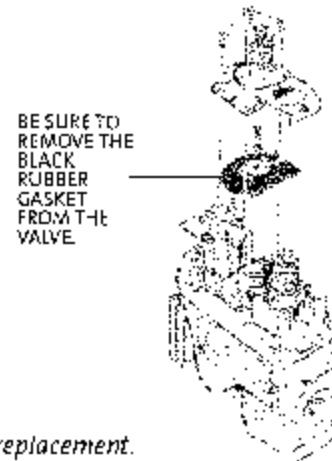

Figure 14
7. **Change the Regulator:** See Fig. 14.